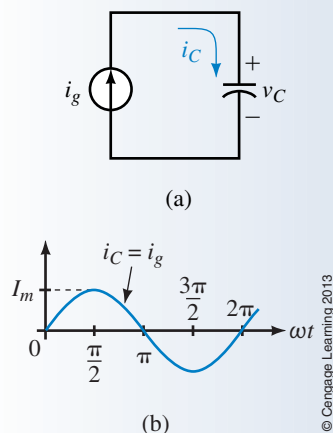

FIGURE 16-31
1. The current source of Figure 16-31(a) is a sine wave. Sketch phasors and capacitor voltage v_C .